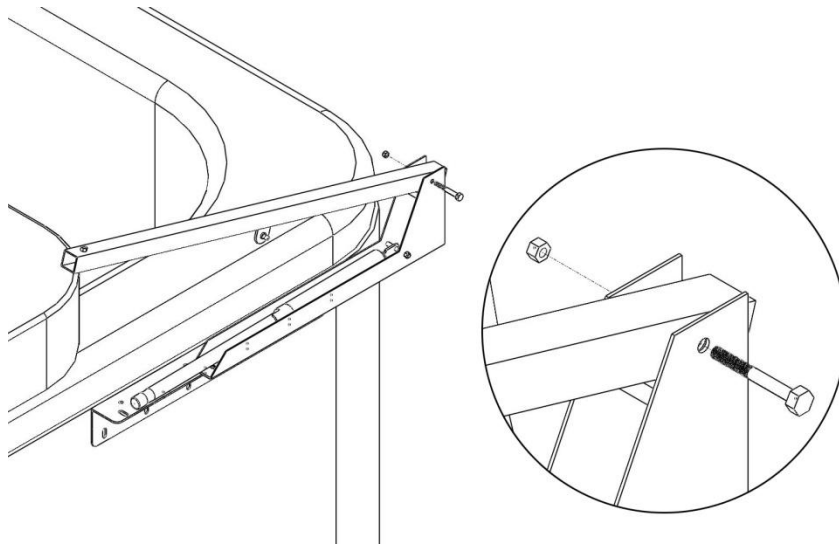

Figure 10
10. Attach the Pivot Arm (cvCC) to the Channel Bracket (cvBB) using the Long Hex Bolt (cvC) and Lock Nut (cvF). Ensure the Lock Nut (cvF) is on the outside of the Channel Bracket (cvBB) and the Pivot Arm (cvCC) moves up and down easily. See Fig 10. **Do Not Over Tighten the Bolts.**